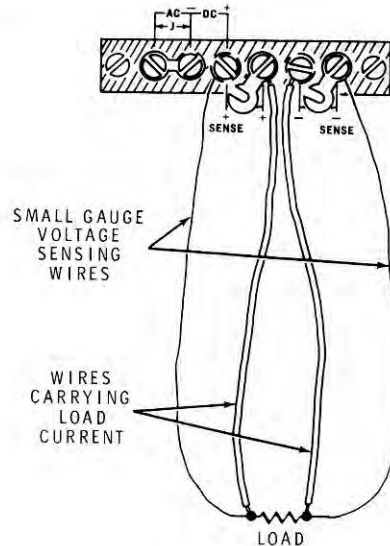

Figure 10
2. Refer to Figure 10 and position the jumpers between the -SENSE and - terminals and the +SENSE and + terminals in the position shown.
4. Refer again to Figure 10 and connect a pair of insulated wires from terminals -SENSE and +SENSE to the - and + terminals of the load. Be careful to maintain the proper polarity. These wires can be light gauge as they carry only a small current.